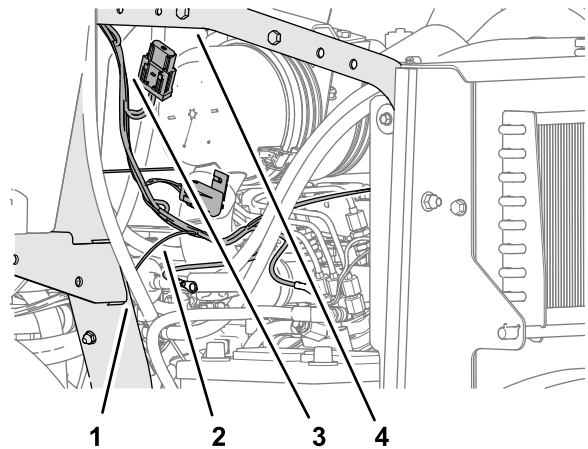

Figure 7
1. At the left side of the machine, route the power harness branch with the tab-terminal connector toward the front of the engine and the lower roll-bar tube (Figure 7).
3. Route the power harness branch with the 2-pin connector, single-pin connector, and 8-socket connector along the lower roll-bar tube and upward toward the support tube (Figure 7).